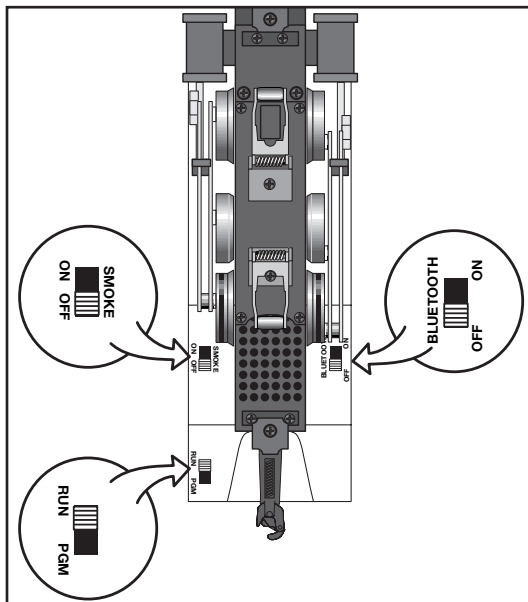

Figure 6. Switch locations
**Note!** If your locomotive is running in Conventional mode, it can be interrupted by a Bluetooth Control device. If you do not wish for this to happen, locate the Bluetooth ON/OFF switch and move it to the OFF position. Refer to Figure 6 on page 8.
1. Slide the program run switch on your locomotive to the PROG position. See Figure 6 on page 8.